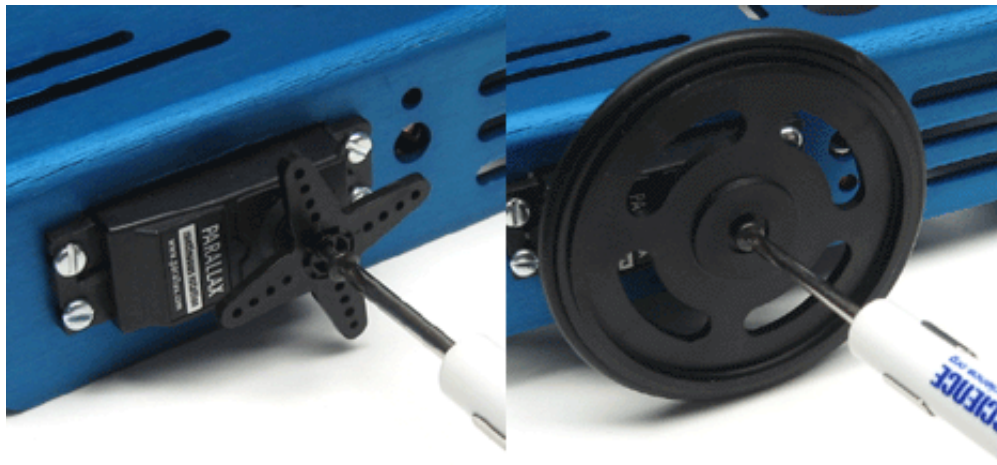

Figure 4. Removing the plastic star (left) and attaching the wheel (right).
1. If your servo motors have a four-pointed plastic star on each axle, remove this piece and save the black metal screw, as shown in Figure 4.
4. Secure the wheels using the black metal screws from each axle, as shown in Figure 4.